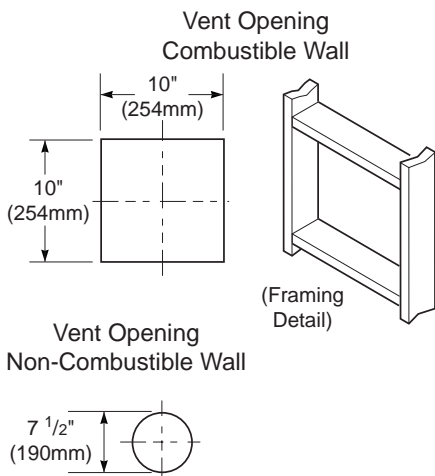
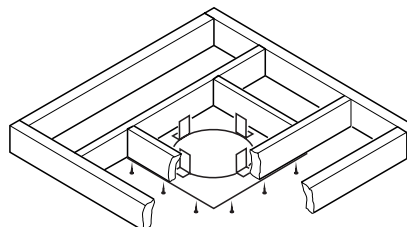

Figure 12 - Vent Opening Requirements
Figure 22 - Installing Firestop
- Attach vent pipe assembly to the fireplace. Set fireplace in front of its permanent location to insure minimum clearances. Mark the wall for a 10" square hole (for non-combustible material such as masonry block or concrete, a 7 1/2" diameter hole is acceptable). See Figure 12. The center of the hole should line up with the center-line of the horizontal rigid vent pipe. Cut a 10"x10" (254mm x 254mm) square hole through combustible exterior wall (7 1/2" [190mm] diameter hole if non-combustible). Frame as necessary (see Figure 12).
1. Cut a 10" square hole in the ceiling using the locating hole as a center point. The opening should be framed to 10"x10" (254mm x 254mm) inside dimensions, as shown in Figure 12 on page 9 using framing lumber the same size as the ceiling joists. If the area above the ceiling is an insulated ceiling or a room, nail firestop from the top side. This prevents loose insulation from falling into the required clearance space. Otherwise, install firestop below the framed hole. The firestop should be installed with no less than three nails per side (see Figure 22).
3. Cut a hole in the roof using the locating hole as a center point. (Cover any exposed open vent pipes before cutting hole in roof.) The 10"x10" hole must be measured on the horizontal; actual length may be larger depending on the pitch of the roof. There must be a 1" clearance from the vent pipe to combustible materials. Frame the opening as shown in Figure 12 on page 9.